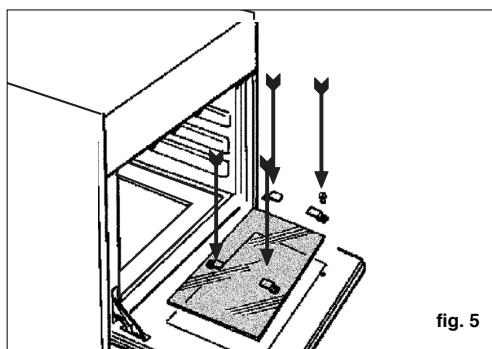

fig. 5
1. Using a flat bladed screwdriver, loosen the four screws fixing the glass to the oven door (Fig. 5).